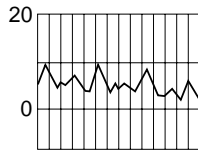

Fig. 2
- Because of the potential for inadvertent arterial placement, one of the following techniques should be utilized to verify venous access. Insert the fluid primed blunt tip transduction probe into the rear of the plunger and through the valves of the Raulerson Syringe. Observe for central venous placement via a wave form obtained by a calibrated pressure transducer. Remove transduction probe (refer to Fig. 2).